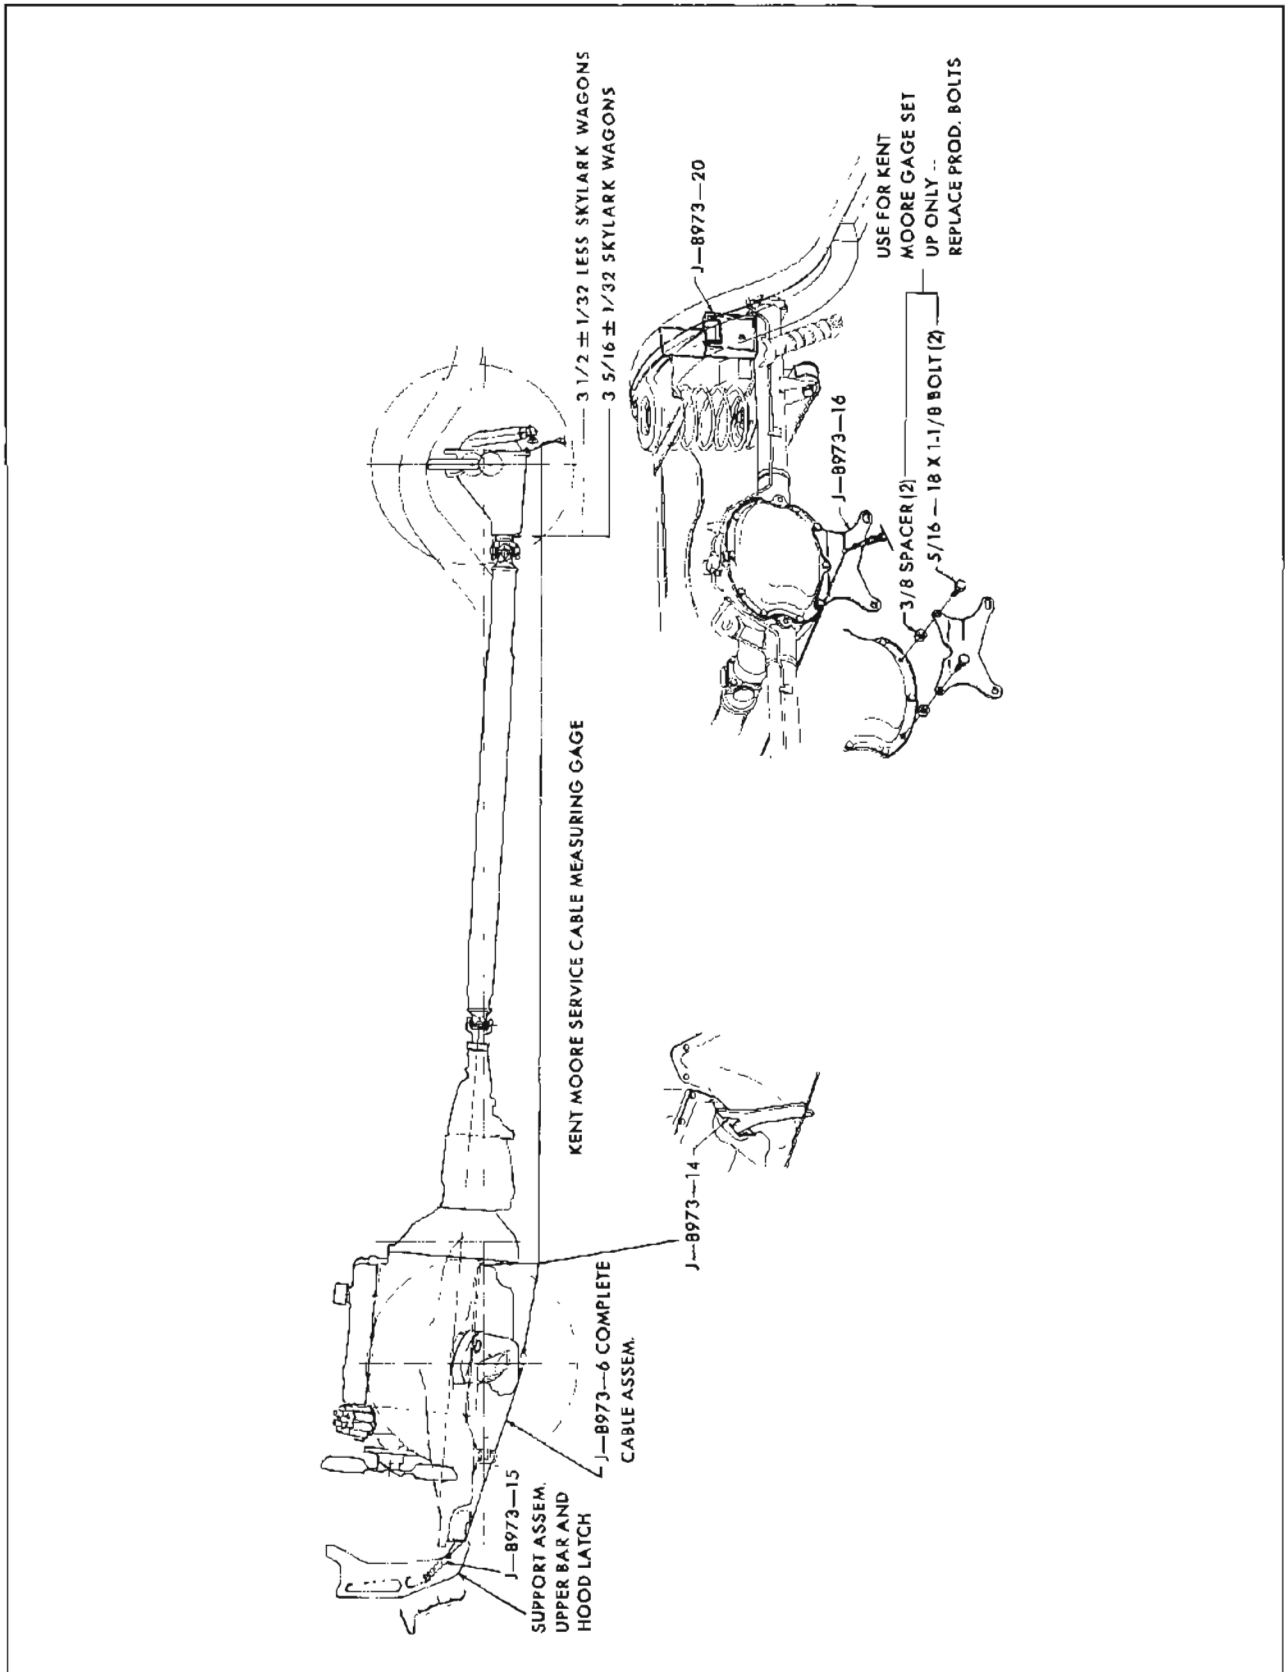

Figure 6-54—Checking Rear Universal Joint Angle
1. With car on hoist, raise rear of car and position spacer blocks with tips up so that they contact frame just ahead of rubber bumper; bottom of block should be parallel to axle. Hold blocks up against frame and allow car to settle until axle housing contacts block. NOTE: Use same blocks for Station Wagons and Sedans. See Figure 6-54.
3. Engage front attaching Bracket J-8973-15 in lower opening of vertical center support assembly located at front of radiator. Hook bracket into bottom of opening. See Figure 6-54.
4. Place Engine Height Plate J-8973-14 so that the upper end bears against the engine oil pan between the two rear oil pan bolts. See Figure 6-54. Place the cable in notch of height plate, pull cable tight and hook into rear bracket so one of the stops on the cable is to the rear of the bracket slot. It is important that the cable is fully in the slot and is taut and free of kinks.
5. Measure perpendicular distance from cable to surface immediately in front of slinger on rear pinion flange. The correct dimension is given in Figure 6-54.